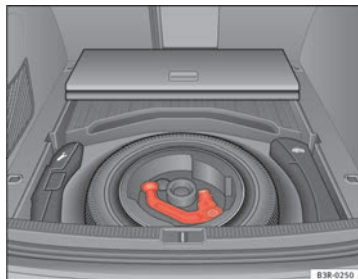

Fig. 162 Luggage compartment: Spare wheel with towing bracket
- On vehicles with a spare wheel ⇒ **fig. 162**.